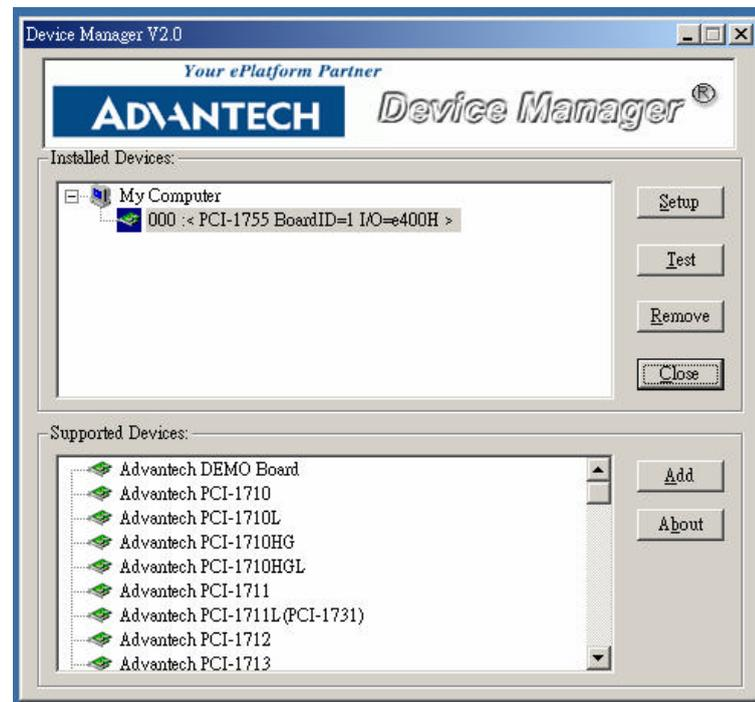

Fig. 2-5 The Device Manager dialog box
Step 4: After you have finished configuring the device, click **OK** and the *device name* will appear in the *Installed Devices* box as the following (**Fig. 2-5**).